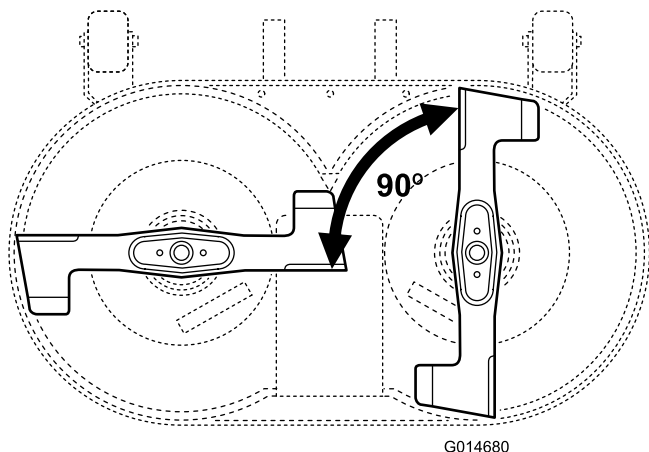

Figure 44
2. Position the blades 90 degrees to each other (Figure 44).